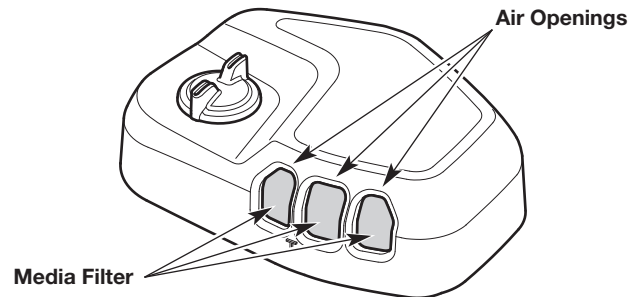

Fig. 33
9. Make sure that the media filter completely covers the air openings (Fig. 33). If necessary, remove the air filter cover and adjust the media filter.